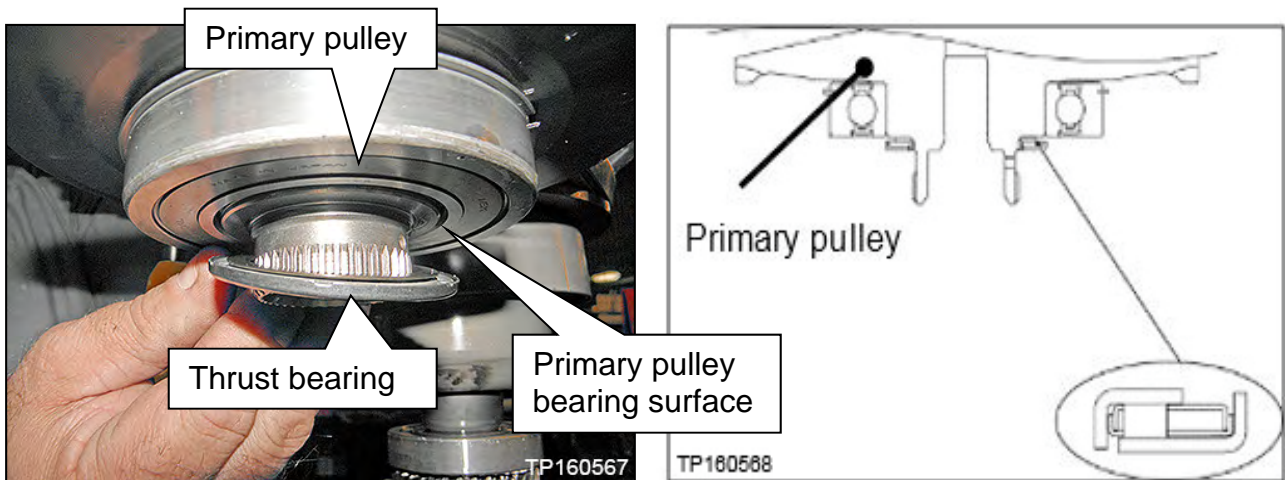

Figure 89
66. Install the original thrust bearing onto the primary pulley of the new sub-assembly (Figure 89).
CAUTION: The thrust bearing has two different sides. Reference Figure 89 for correct bearing orientation.
- The thrust bearing must sit flush with primary pulley surface (Figure 89).